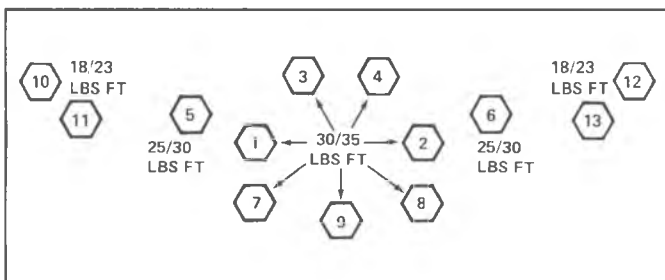

Fig. 1A--Exhaust Manifold to Cylinder Head Bolt Tightening Sequence and Torque
4. Clean, oil and torque all manifold to cylinder head bolts and nuts to specifications (fig. 1A).